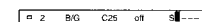

Fig. 23
- Select a letter or number with Δ or ∇ and press OK. The next element will be highlighted. Select other characters in the same way. If you want to leave an element blank, select - and press OK. (See Fig. 23.)